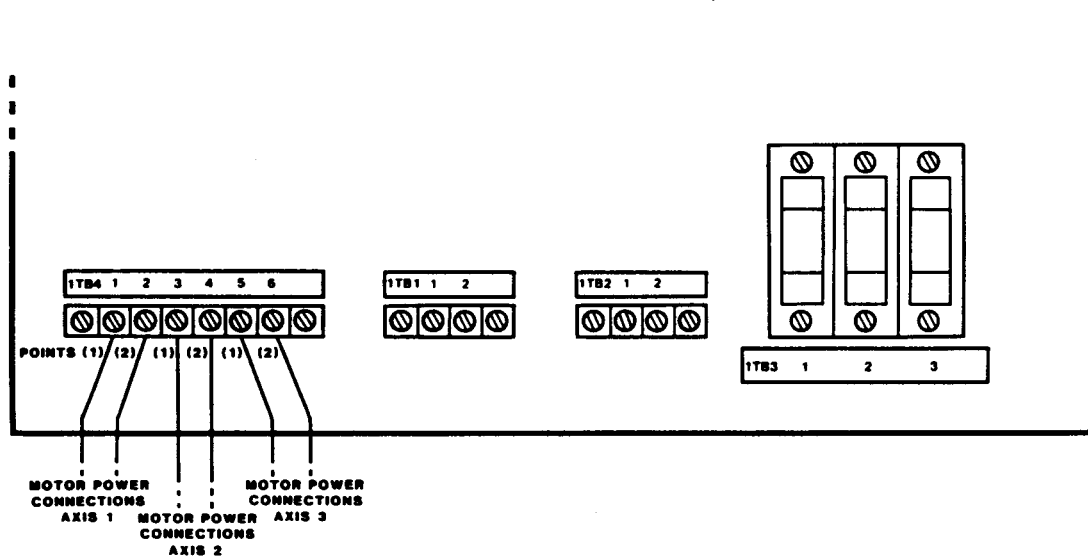

FIGURE 3-7: LOCATIONS FOR MOTOR POWER CONNECTIONS FOR AXES 1, 2 AND 3
* See figure 3-7
The locations for the motor power connections to the base plates are shown in figure 3-7. The technique for properly connecting the polarity of the motor power connections and motor tach connections to the 160V, 100QV and 80QV SERIES Base Plate is described below:
* The connections described above are similar for axis 2 and 3. (See figure 3-7.)